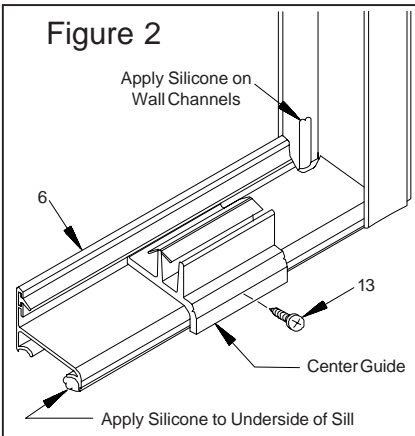

Figure 2
1. Set wall jamb (1) in place on wall, centering bottom of jamb on rim of tub. Hold plumb and mark walls for screw holes.
2. Remove and drill 3/16" diameter holes in walls (use a carbide tipped drill bit for tile walls). Insert plastic wall anchors (2) into holes. Silicone where the wall meets the rim of the tub to seal the bottom of jamb. Set jamb in place and secure to wall with #8 x 1 1/2" screws (3). Secure Bottom Bumper (4a) on showerhead / Inside side with bottom wall jamb screw (3).
3. Cut bottom sill (6) 7/16" smaller than slider opening. Run a bead of silicone full length to the underside of sill (6) and apply silicone to inside of jamb where jamb meets tub. On inside of jamb, run a 1/4" bead of silicone 1 1/4" up the outside leg of wall jamb (See Figure 2). Set sill in place and press firmly to rim of tub. Wipe off any excess silicone before curing.
4. Hold 180-degree post (20) in place over end of guide and measure from post to wall to arrive at curb channel length. Cut curb channel (21) to length and set in place, weep hole(s) to inside. Apply a bead of silicone to underside of curb channel and insert post to curb key (23) into end of curb channel.
5. Set wall channel (22) on curb channel, hold plumb and mark the wall for the screw holes. Remove wall channel, drill holes into the wall and insert screw anchors. Fill curb channel with silicone where curb channel meets wall. Set wall channel in place and secure with #8 x 1 1/2" screws (3). Secure clip (24) to top inside leg of wall channel with #6 x 1/4" screw (26).
6. Place glass support block (25) in center of the curb channel. Set panel (27) into place in curb channel and into wall channel. Using the vertical seal vinyl (28) tack